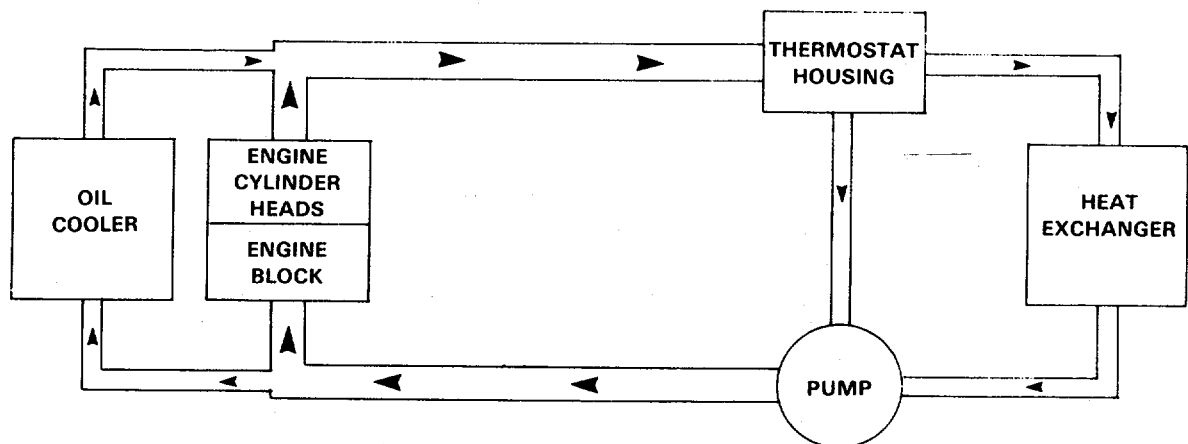

FIGURE 1-6. Coolant Flow Path.
(1) Coolant Flow Path. Water (coolant) is circulated by a centrifugal water pump mounted on front of the engine. The water pump is belt driven. Water circulates around wet-type cylinder liners, through the cylinder heads, and around the injector sleeves. Injector sleeves, in which the injectors are mounted, are designed for fast dissipation of heat. The engine has a thermostat to control engine operating temperature. FIGURE 1-6 shows the coolant flow path through the engine.